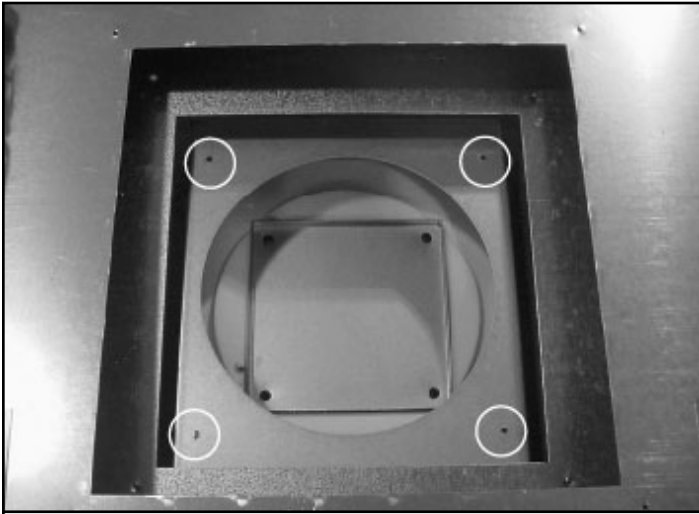

Figure 7.12 Inner Cover-Top
- Place inner cover plate on appliance top and replace four screws to hold inner cover plate in place. See Figure 7.12. Make sure gasket is replaced with the cover plate!